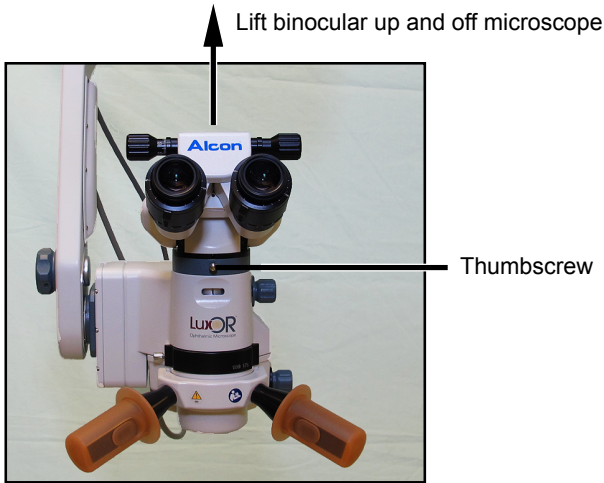

Figure 6-1 Removing the Binoculars
1. Remove the binoculars from the LuxOR Revalia™ (LX3 LED) microscope, by first unscrewing the locking thumbscrew and lifting the binocular upward, (*Figure 6-1*).